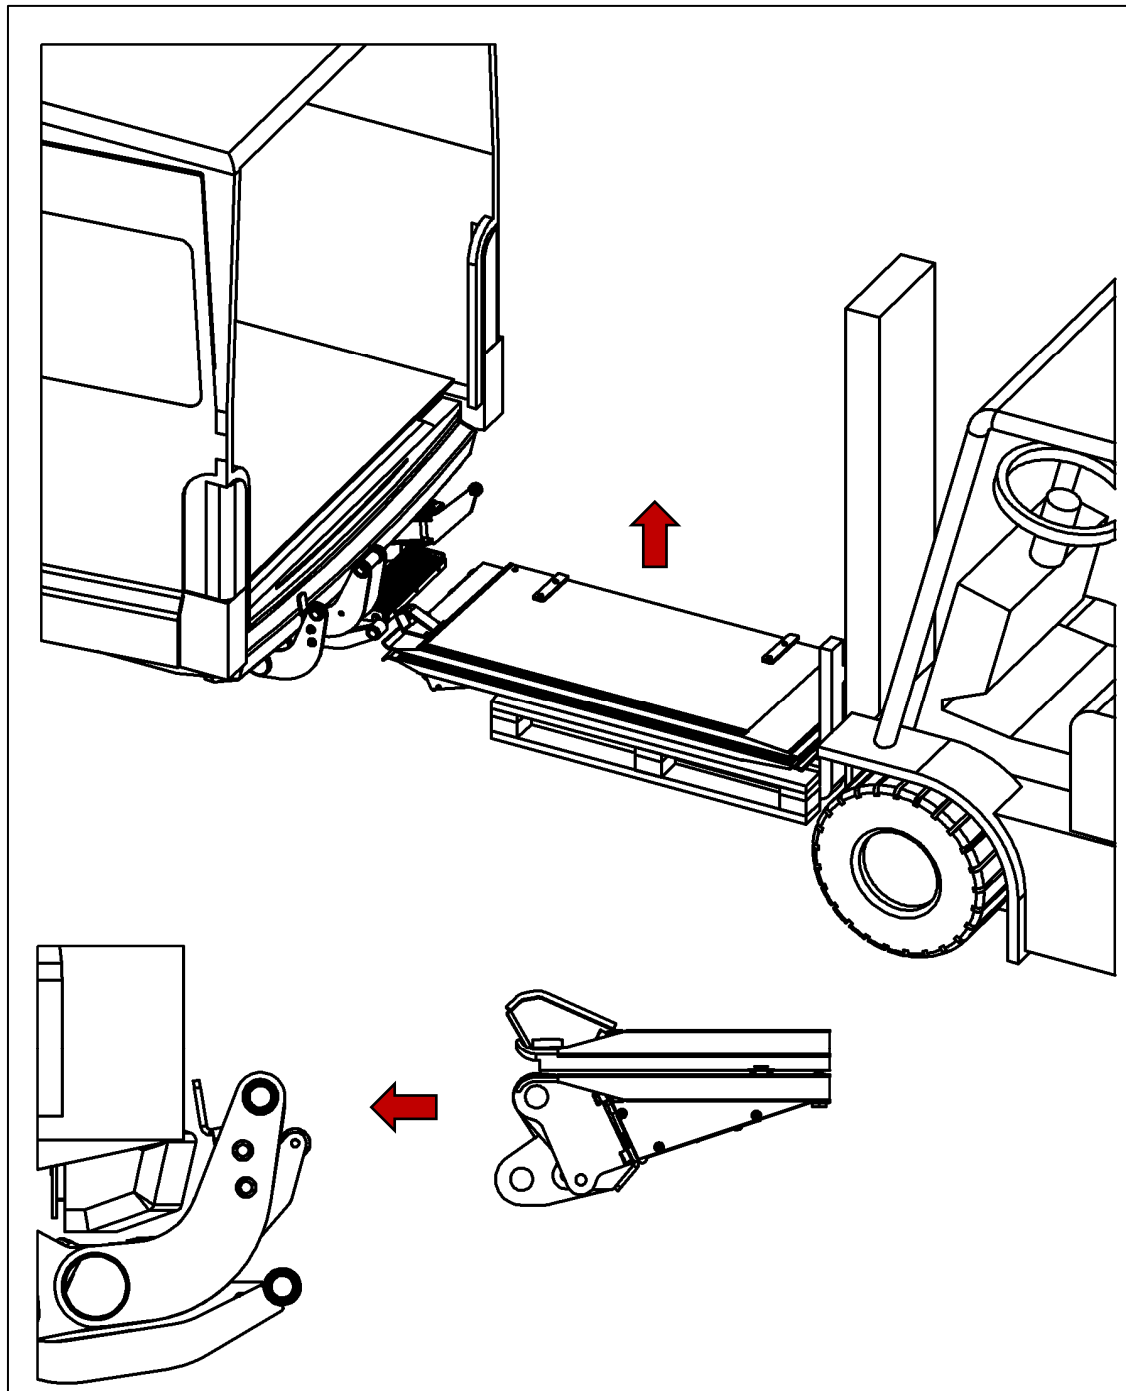

Fig. 47
- Lift the platform using suitable means, e.g. crane, assembly table, or pallet truck and pallet (see Fig. 47).